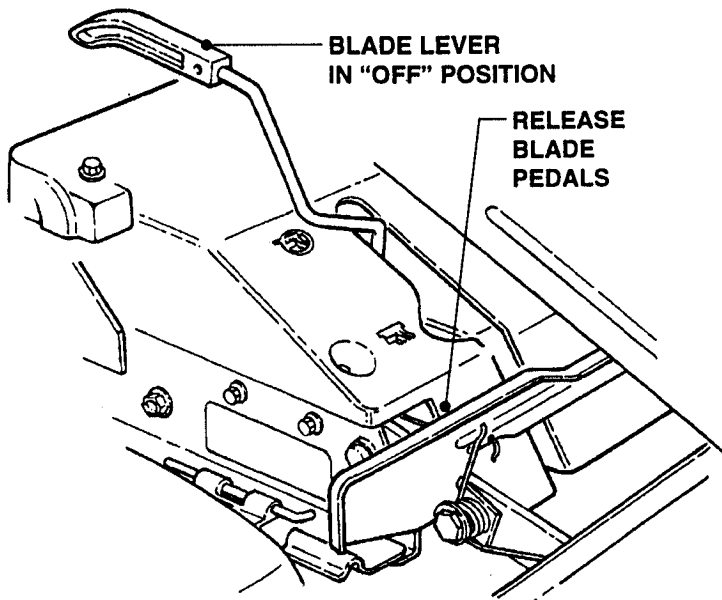

FIGURE 2.4
2. Make certain the Blade Lever is in the "OFF" position. See Figure 2.4.
**IMPORTANT:** When the ignition key is turned to "RUN", and the recoil handle is pulled, the engine will turn over, but will not start unless the Clutch/Brake Pedal is pressed all the way down with Parking Brake engaged (See Figure 2.8) and the Blade Lever is in the "OFF" position (Refer to Figure 2.4). Start engine as follows:
2. Make certain the Blade Lever is in the "OFF" position. Refer to Figure 2.4.